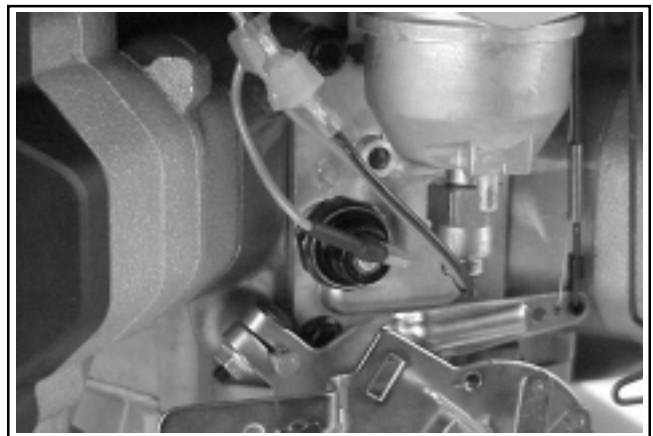

Figure 6-5. Oil Sentry™ Location.
The Oil Sentry™ pressure switch is installed on the breather cover. See Figure 6-5.
2. Install the switch into the tapped hole in the breather cover. See Figure 6-5.